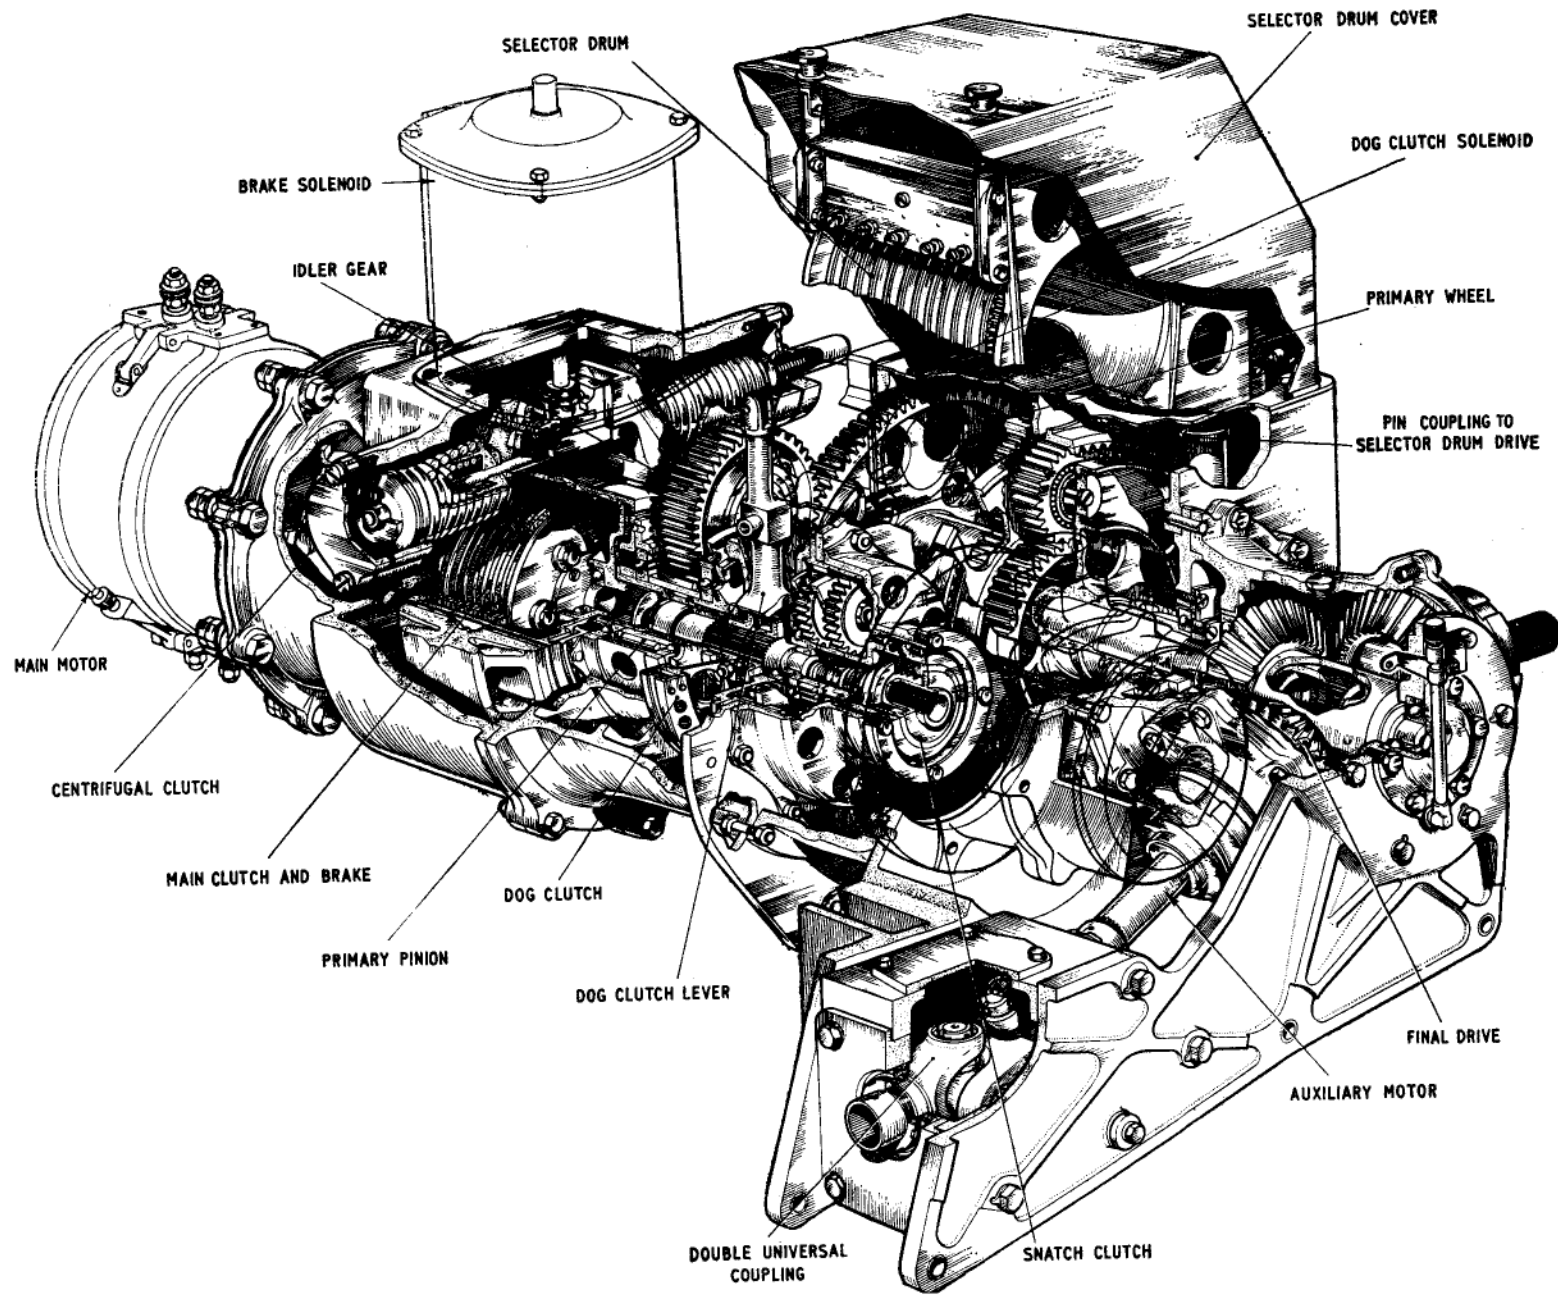

Fig. 1. Flap gearbox
1. The flap gearbox (*fig. 1*) transmits the power of the operating motor to the flap mechanism through a train of epicyclic gears. It also rotates a drum assembly on which cam-operated microswitches are set to shut off the motor and apply a brake when the flap has reached the end of its selected travel.